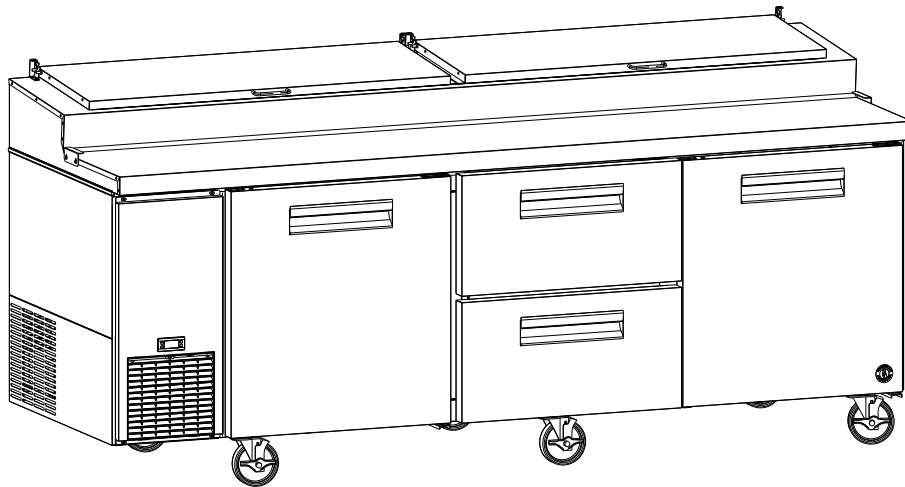

Fig. 33
- 27) Place the lower drawer in the lower drawer slides and the upper drawer in the upper drawer slides. See Fig. 33. **WARNING! Be sure to close the safety clips when reinstalling the drawer.**